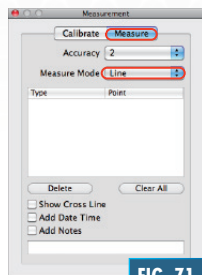

FIG. 71
2. Click the "Measure" button. Change the measure mode to "Line." (Fig. 71)